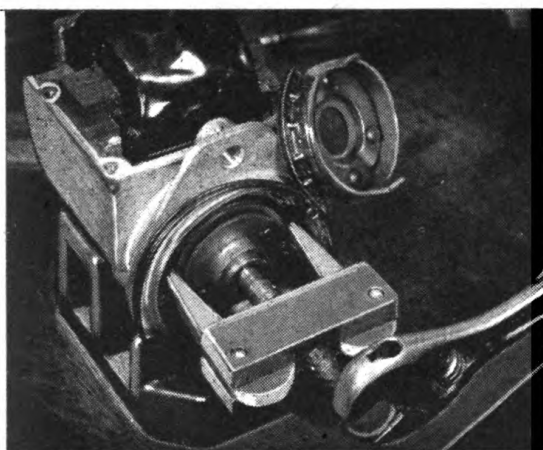

Fig. 59. Pulling Impulse Coupling
- (d) Apply the impulse coupling puller No. 11 Fig. 37 to the coupling and the end of the shaft. Fig. 59. Turn the long cap screw to pull the impulse coupling.